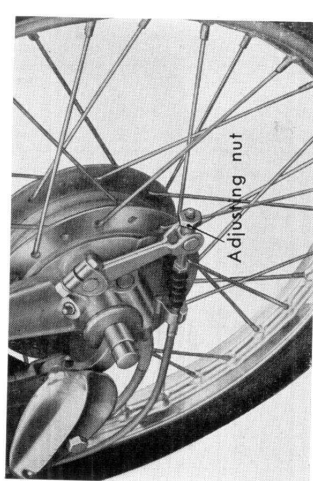

Figure 6-36. Adjusting front brake lever
- b. Adjustment is made by the adjusting nut. (Fig. 6-36)